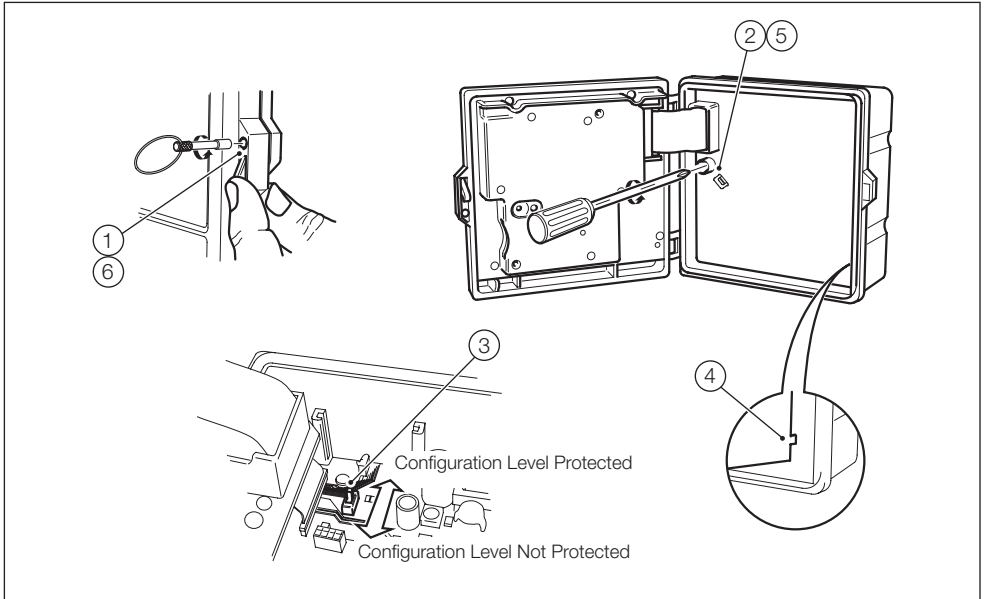

Fig. 6.3 Setting the Security Switch
The Configuration level cannot be accessed until the internal switch set to the 'Configuration Level Not Protected' position – see Fig. 6.3 on page 27.
1. Set the internal security switch to the 'Configuration Level Not Protected' position – see Fig. 6.3.
Referring to Fig. 6.3, set the internal security switch as follows: